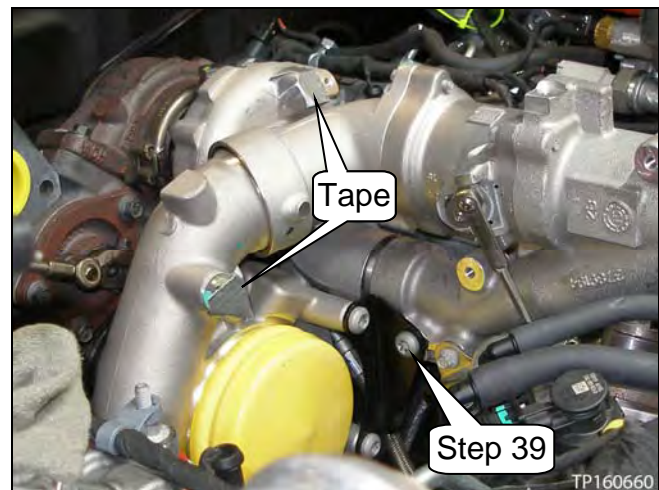

Figure 50
- Cover the hole with tape (see Figure 50).
39. Remove the T45 TORX® bolt (see Figure 50).